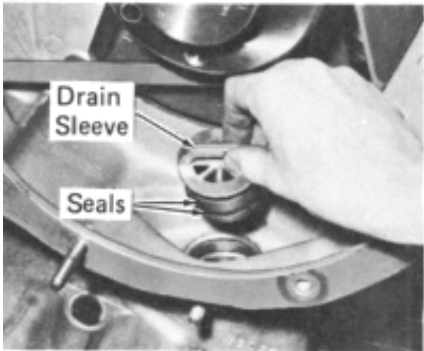

Fig. 13-8 - Overspeed Trip Housing Drain Sleeves
Lubricating oil from the overspeed trip housing drains into the top of the accessory drive housing through two removable cast aluminum drain sleeves, Fig. 13-8. Each sleeve has two rubber O-ring seals.
3. Remove the bolt and steel retainer strap, Fig. 13-8, holding the sleeve.